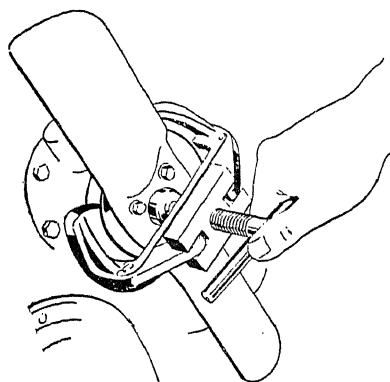

Fig. 4. Use a Puller to Pull the Fan
**Removing Fan and Fan Pulley.** Different engines have different construction with reference to these several units. As a rule, the work may be done as suggested in Figs. 4 and 5, making use of the steel pullers or gear pullers for this work.